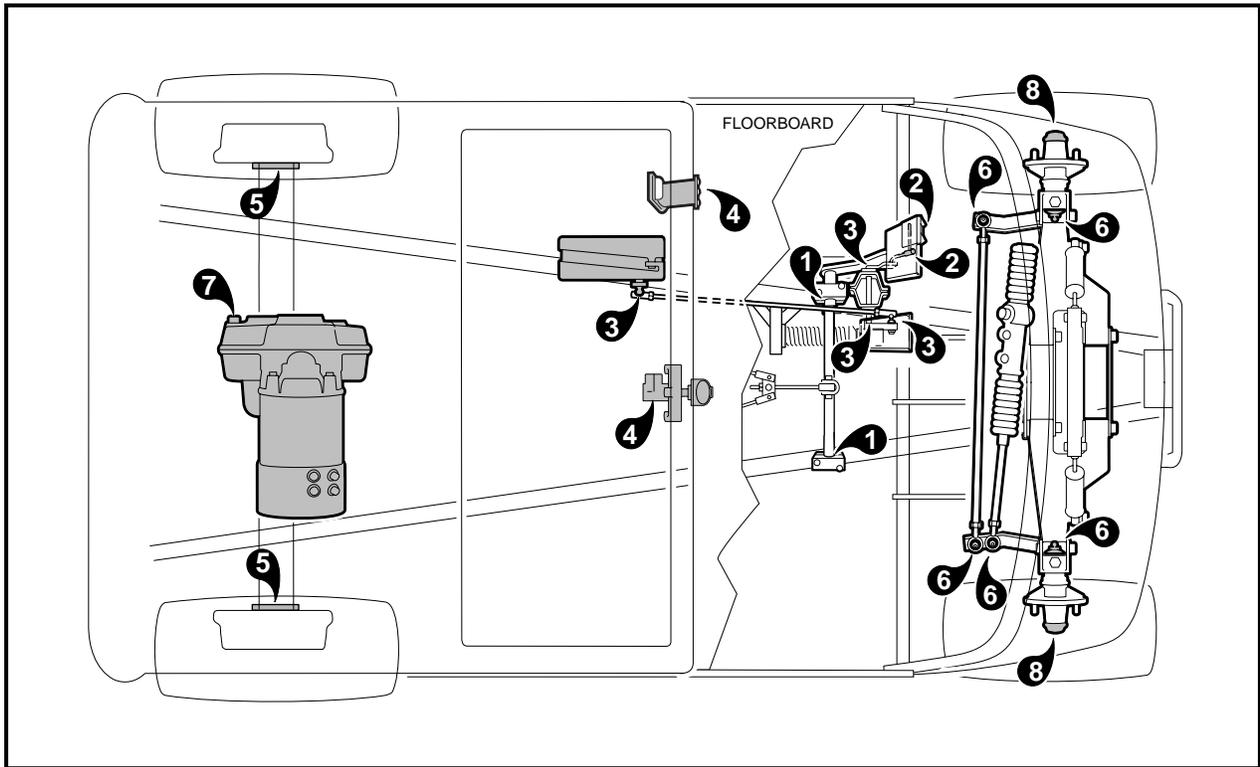

Figure 10-2 Vehicle Lubrication Points—DS, Tourall, Fairway Villager and Carryall I
*See following Figures 10-2 and 10-3.